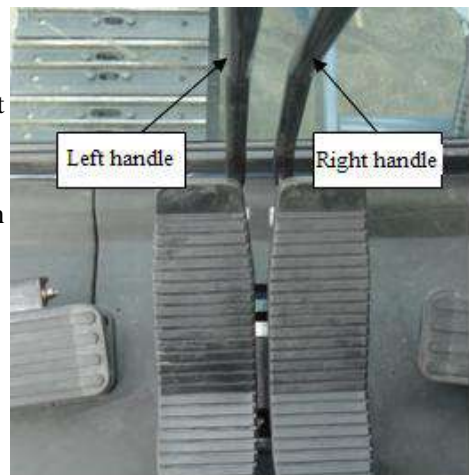

Figure 3.4.5
If need the machine hairlike traveling, you can insert two attached handles to carry out hand control. This method is safe and reliable and fit for loading and unloading the machine to trailer (As figure 3.4.5).
(1) **Straight travel:** Push 2 handles forward at the same time. (Figure. 3.4.5)
(2) **Straight back:** Pull 2 handles backward at the same time. (Figure. 3.4.5)